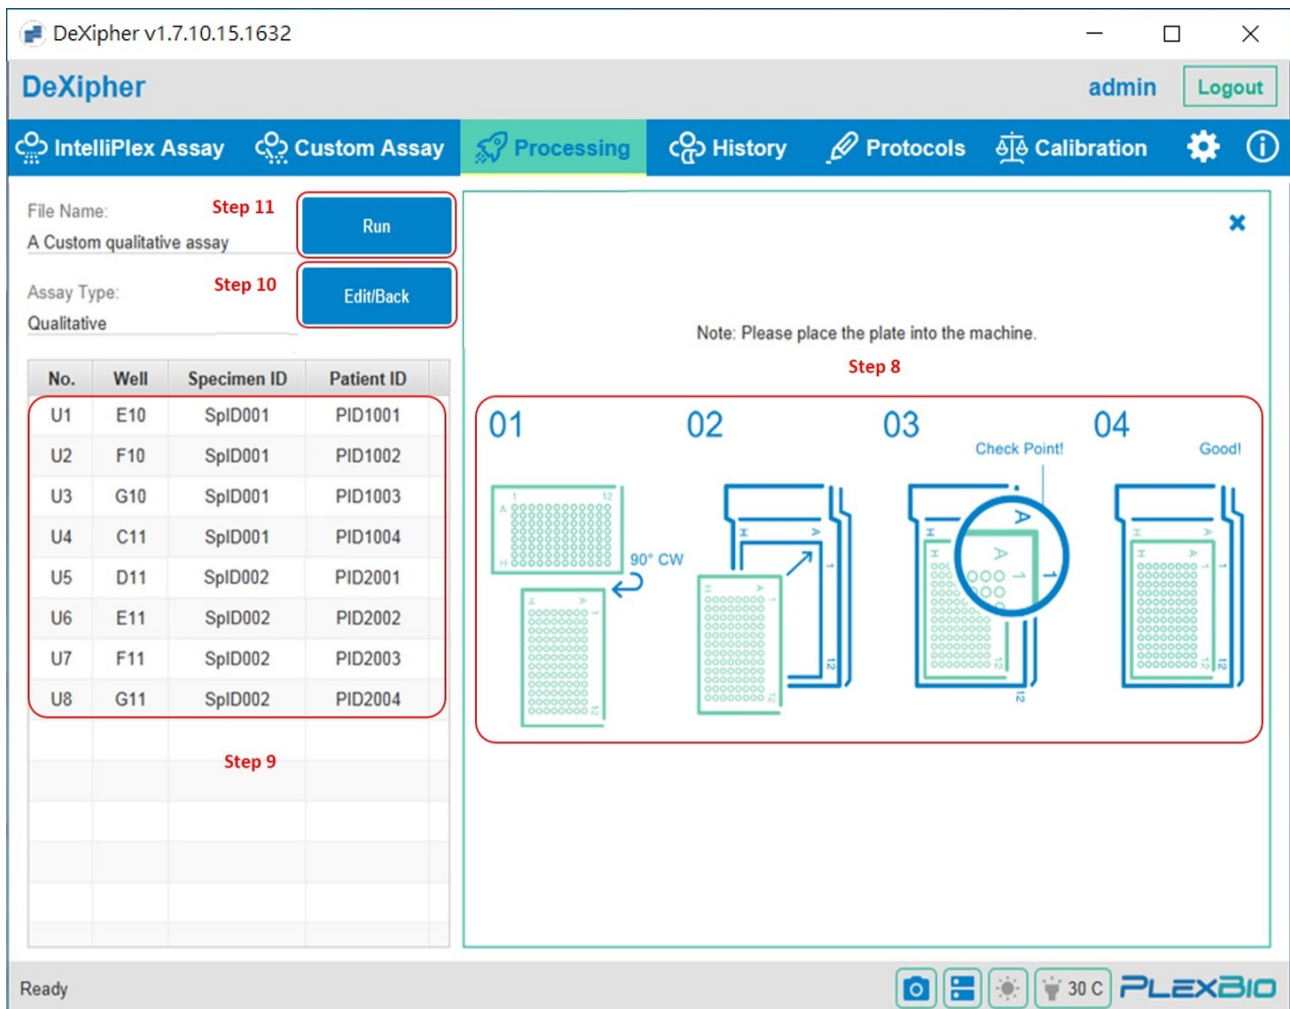

Fig. 24. Custom Assay - Qualitative - Processing
- Step 7. The **Processing** tab will be activated (Fig. 24).